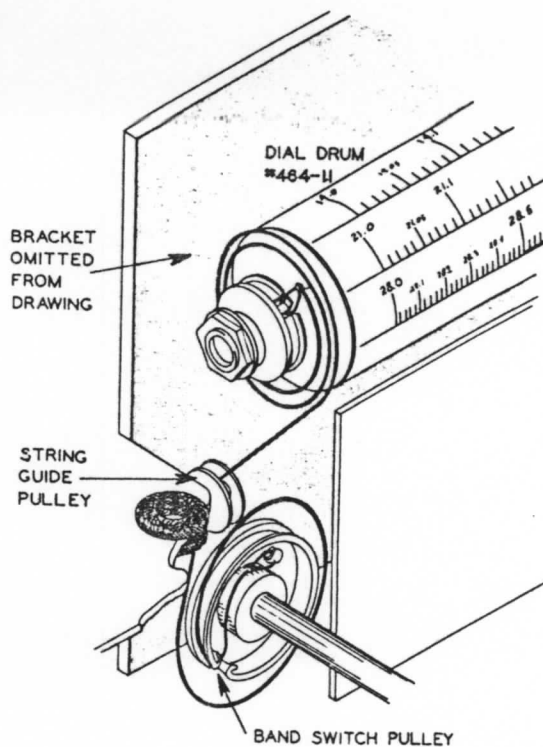

Figure 35
- (✓) Referring to Figure 35, secure a small loop in one end of the remaining length of dial cord. Prepare this loop as before. Slip the loop over the prong in the gap on the rim of the small dial drum pulley. Looking at the end of the drum, wrap two turns around this pulley in a clockwise direction, then allow the other end to hang free temporarily. The cord should be coming down off the front of the pulley as shown.